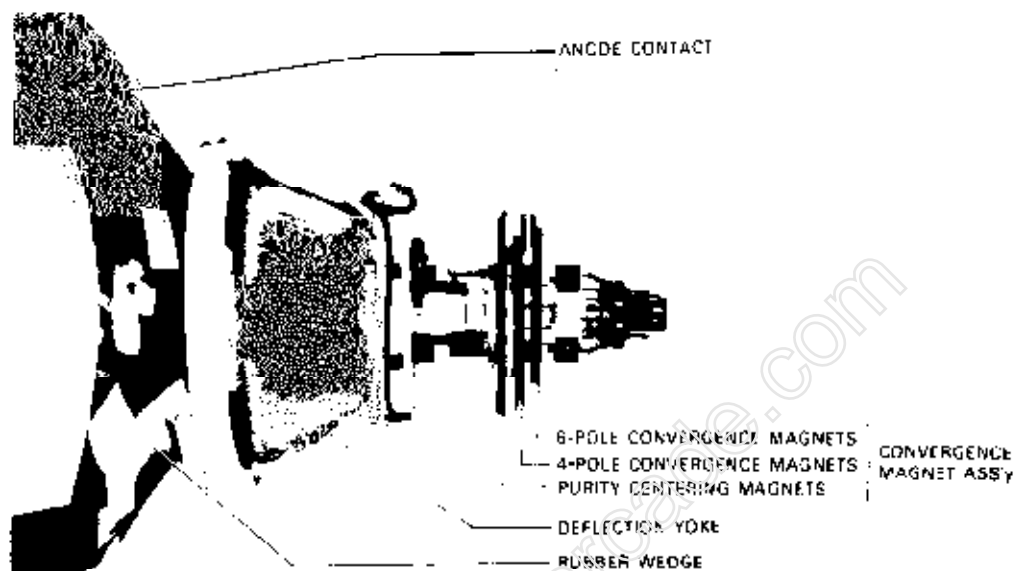
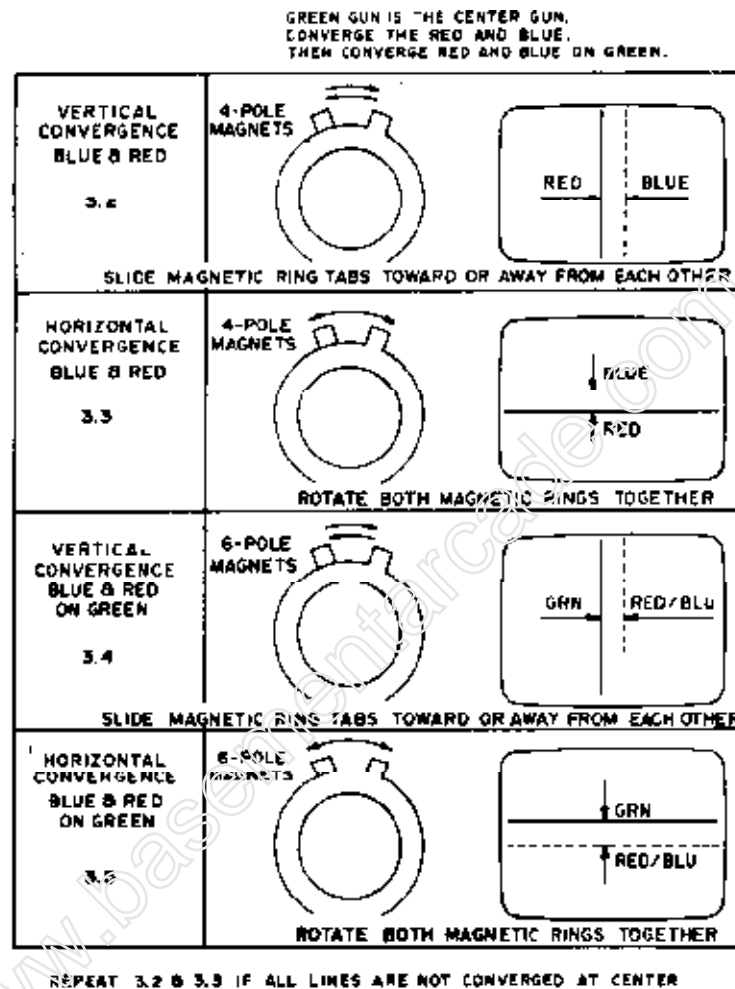

Figure 6 Location of Color Purity and Convergence Controls
Figure 5 Adjustment of Red and Blue Beams During Static Convergence
- 3.2 A pair of 4-pole convergence magnets is provided to converge the blue and red beams (see Figure 6). When the pole opens to the left and right 45° symmetrically, the magnetic field is maximized. Red and blue beams move to the left and right (see Figure 5). Vary the angle between the tabs to adjust the convergence of red and blue vertical lines.
- 3.4 A pair of 6-pole convergence magnets is provided to converge the magenta (red + blue) to the green beams (see Figure 6). When the pole opens to the left and right 30° symmetrically, the magnetic field is maximized. Red and blue beams both move to the left and right (see Figure 5). Vary the opening angle to adjust the convergence of magenta to green vertical lines.